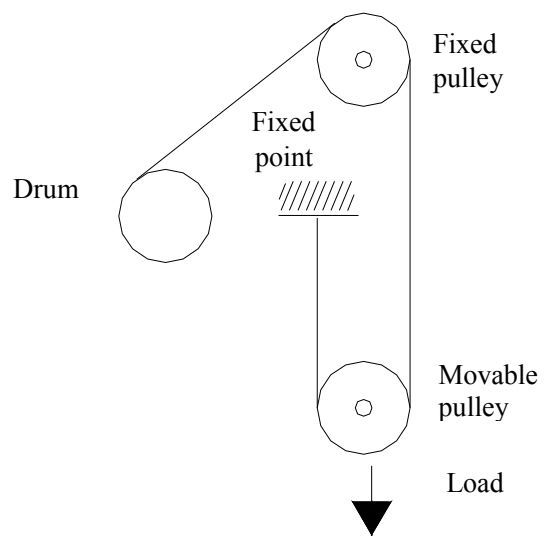

Fig. 5-1
5.2 Inspecting the drum (See Fig. 5-1)